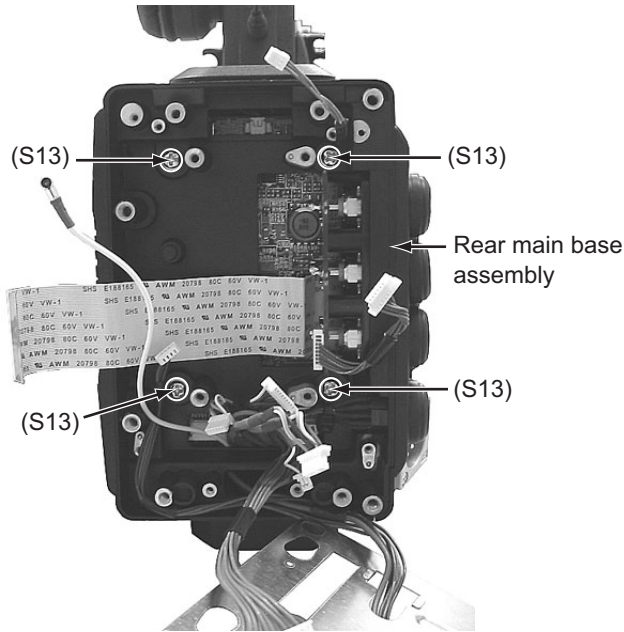
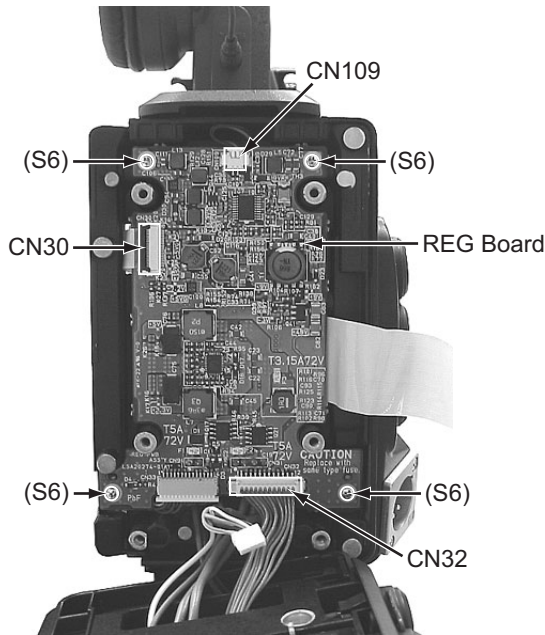
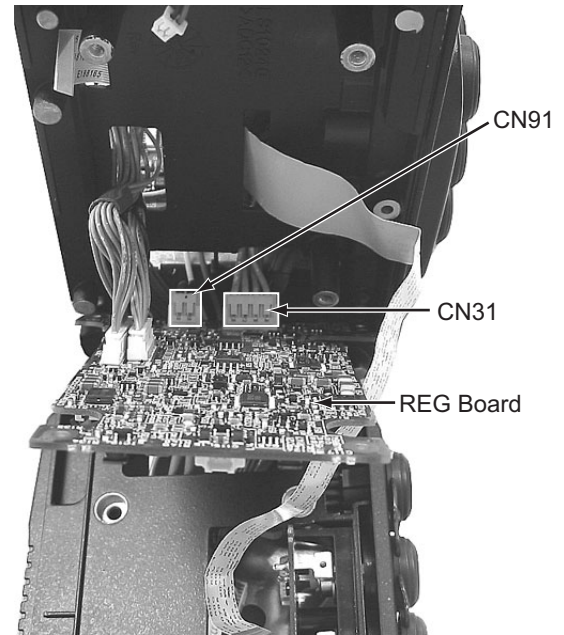

Fig.29
Fig.30
Fig.31
3.4.4 Removing the GENTC board and REG board (See figure 23, figure 24, figure 25, figure 26, figure 27, figure 28, figure 29, figure 30 and figure 31)